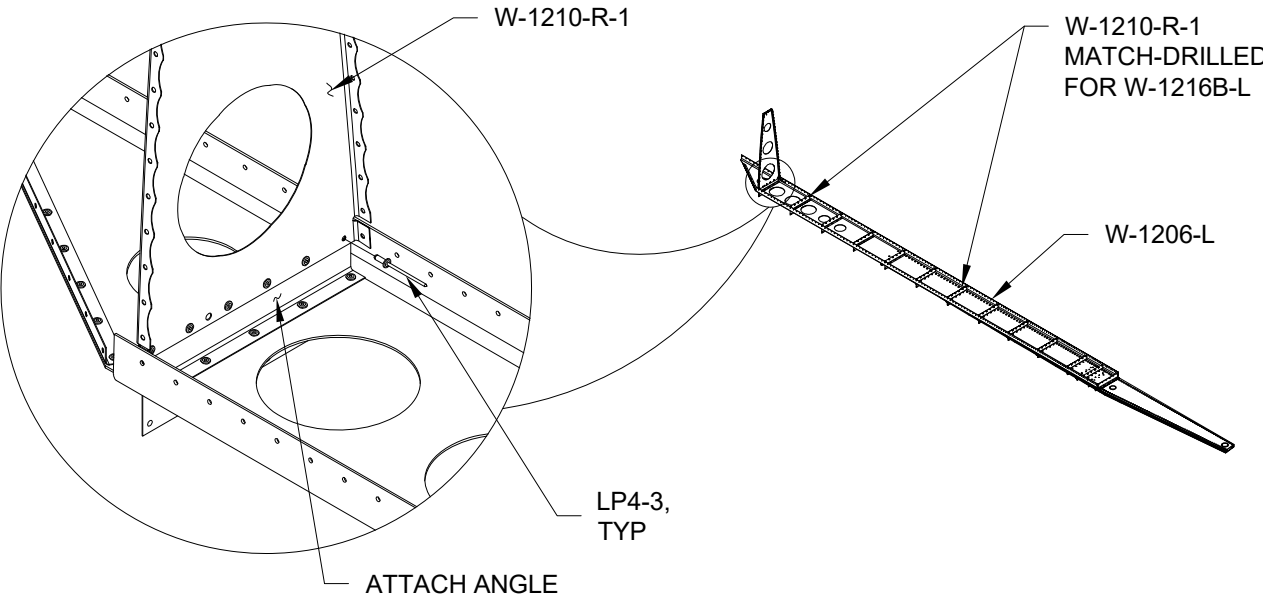

FIGURE 1: ATTACHING THE MAIN RIBS
Step 1: Lay the W-1206-L Spar Assembly on the work surface with the flanges facing up. Select one of the W-1210-R-1 Main Ribs and cleco then rivet to the furthest outboard attach angle on the spar assembly as shown in Figure 1.
Step 2: Take one W-1210-R-1 Main Rib which was match-drilled to the W-1216B-L Hinge Rib and cleco then rivet to the next inboard attach angle on the W-1206-L Spar Assembly as shown in Figure 1.
Step 4: Cleco then rivet the remaining W-1210-R-1 Main Rib which was match-drilled to the W-1216B-L Hinge Rib to the next inboard attach angle on the W-1206-L Spar Assembly as shown Figure 1.